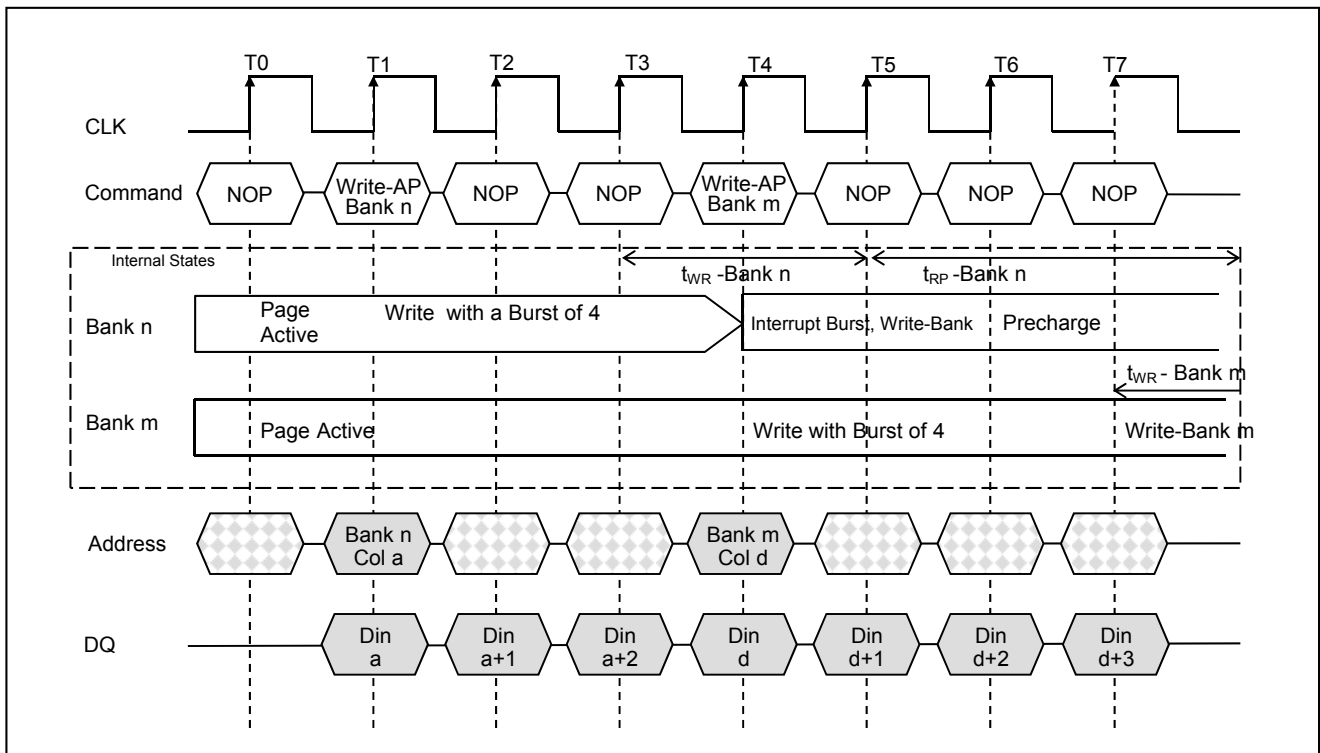

Figure 28. Write with Auto Precharge Interrupted by a Write
4. Interrupted by a Write (with or without auto Precharge): A Write to bank m will interrupt a Write on bank n when registered. The Precharge to bank n will begin after t_{WR} is met ,where t_{WR} begins when the Write to bank m is registered. The latest valid data Write to bank n will be data registered one clock prior to a Write to bank m.(Figure 28.)